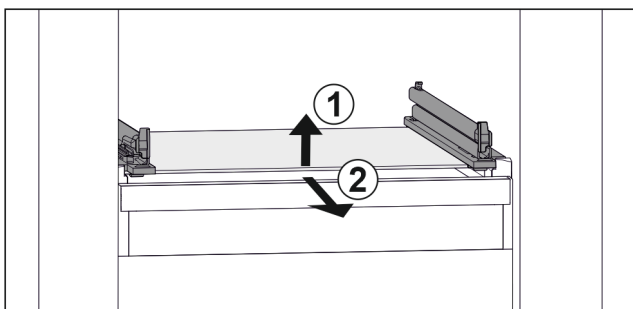

Fig. 140 Example illustration of glass shelf
- ▶ Lift glass shelf at the front. *Fig. 140 (1)*
- ▶ Take out glass shelf to the front. *Fig. 140 (2)*